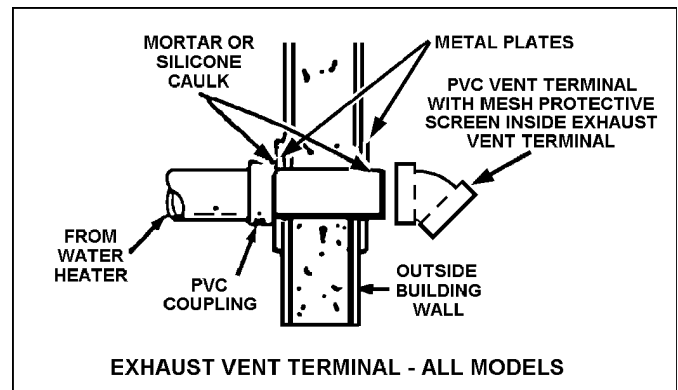
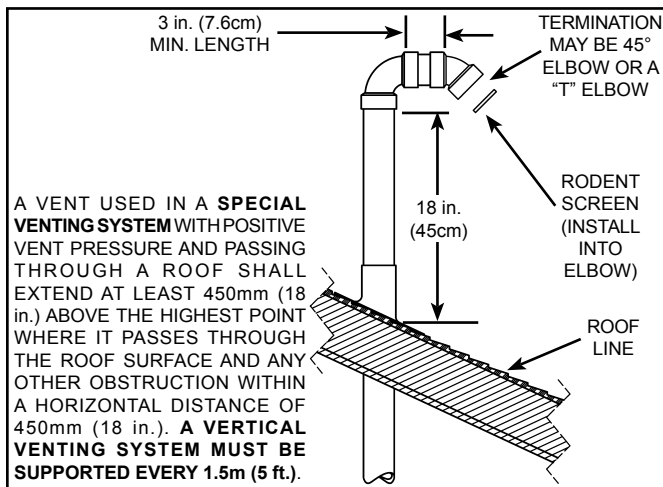

FIGURE 24
FIGURE 29
The first step is to determine where the vent pipe will terminate (see Figures 24, 29 & 31). The vent may terminate through a sidewall as shown in Figure 24 or through the roof as shown in Figure 29.
6. If the vent pipe is installed up to the wall, with a coupling on the end against the wall opening, the pipe with the vent terminal can be prepared for gluing before inserting through the wall. Slide the pipe through the wall and insert into coupling on the other side of the wall, making sure that the vent terminal ends up pointed in the correct position (see Figure 24).